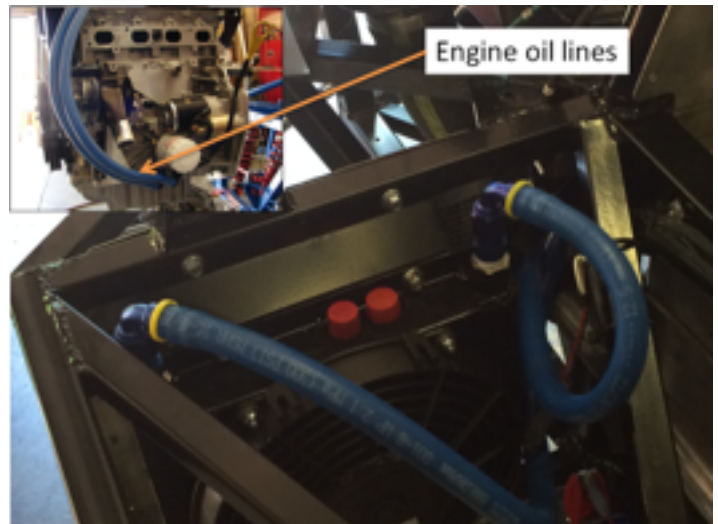

Figure 33 – Oil Cooler Lines
93. Repeat for the second oil line. The approximate length of the 2nd oil line is 41”. See fig 33 for picture of oil lines.